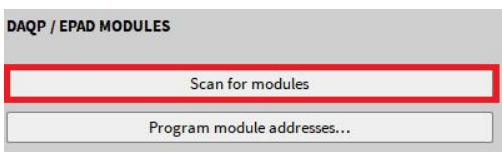

Fig. 13: Scan for modules button
6. Press the *Scan for modules* button (Fig. 13). The system will scan the selected Serial Port for any present XR module. The status can be seen in the lower right corner of the software.